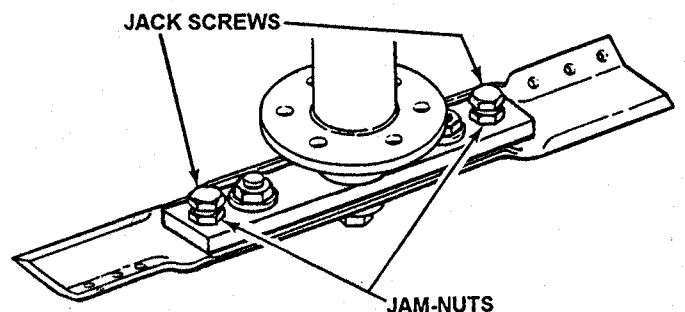

FIGURE 4.8
- b. Adjust jack screws "IN" or "OUT" until blade tip measurements are within 1/16" of each other and blade tips are 3/8" away from deck lip then tighten jam nuts. See Figure 4.8.